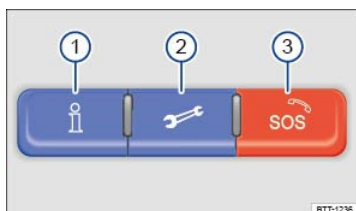

Fig. 12 In the roof console: 3-button module to connect to VW Car-Net Security & Service operators (if equipped).
You can access VW Car-Net Security & Service via your VW Car-Net iPhone[®] or Android[®] app (text and data rates apply) and the VW Car-Net Security & Service website (<http://www.vw.com/carnet>). If you have a question or would like to subscribe, please either press the ⇒ Fig. 12① button in your vehicle or contact the VW Car-Net Security & Service Response Center at 1-877-820-2290. For more information or to log on to your VW Car-Net Security & Service account, visit <http://www.vw.com/carnet>.
The Manual Emergency Call service and all other VW Car-Net[®] Security & Service features require a trial or paid subscription. To begin your trial or paid subscription, authentication and activation are required. For more information, please visit the website (<http://www.vw.com/carnet>), press the ⇒ Fig. 12① button in the 3-button module in your vehicle, or contact the VW Car-Net Security & Service Response Center at 1-877-820-2290.
Key to ⇒ Fig. 12 :